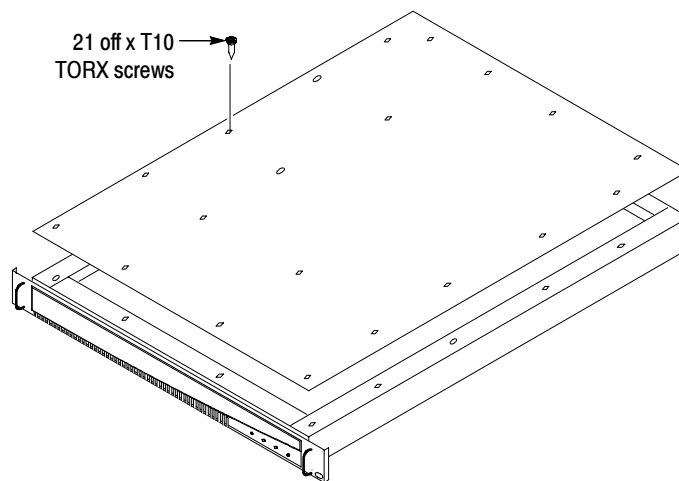

Figure 16: Removing the instrument cover
1. Remove the 21 cover retaining screws (see Figure 16) and lift the cover clear of the instrument.
14. Line up the instrument top cover and replace the 21 retaining screws (see Figure 16 on page 22).